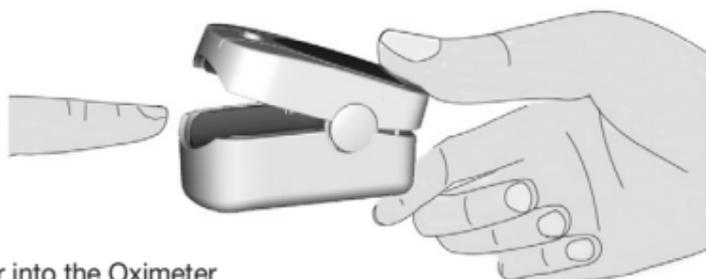

Figure 3 Put finger into the Oximeter
- A. The finger should be placed properly (see the figure 3 of this manual), or else it may cause inaccurate measurement.
1. Open the clip as shown in Figure 3.